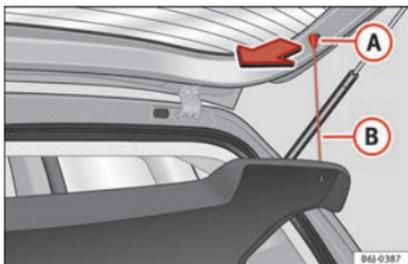

Fig. 149 Rear shelf.
- Unhook the loops » Fig. 149 (A) from housings (A).